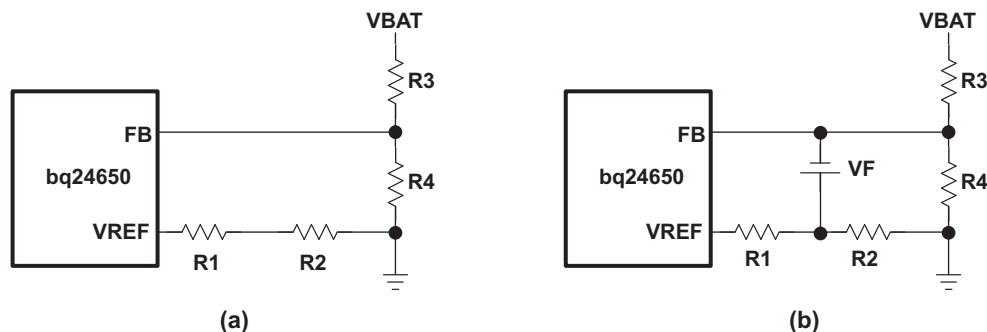

Figure 3. Circuit to Partially Disable Precharge Mode During Precharge and Fast-Charge Battery Voltage Levels
- If $V_{BAT} \times R4 / (R3 + R4) > V_{LOWV}$, the disable precharge mode circuit appears as in Figure 3 \(a\). During these conditions, the FB pin connected directly to the battery voltage through the resistor divider.
- If $V_{BAT} \times R4 / (R3 + R4) < V_{LOWV}$, the diode is automatically forward-biased as shown in Figure 3 \(b\). The clamp circuit forces the feedback pin voltage to approximately $(V_{FB\ REG} - V_{LOWV})/2$.